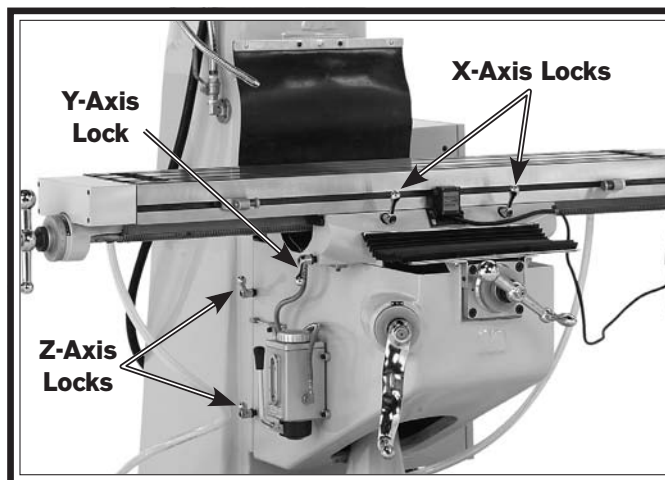

Figure 20. Locations of table locks.
Refer to **Figure 20** for the locations of the locks used to secure the table in place.
1. Loosen the X-axis table locks (refer to **Figure 20** on **Page 27** for locations).